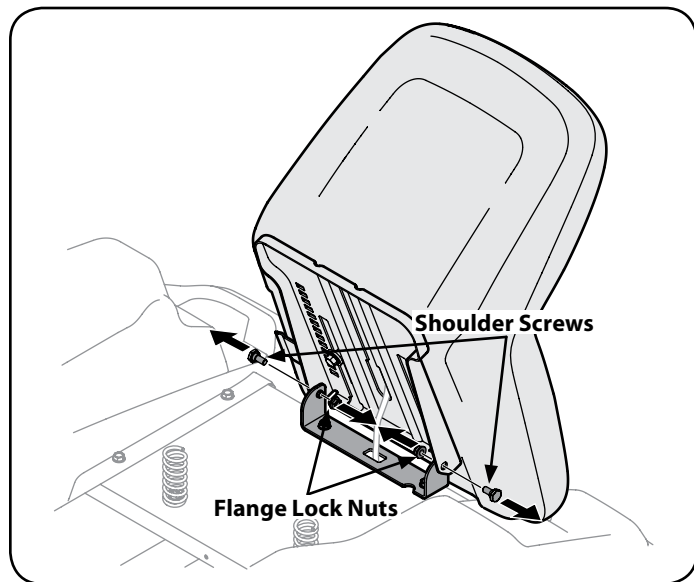

Figure 5
- Rotate the seat into position and secure the seat into place with the previously removed shoulder screws and flange lock nuts. Be careful not to crimp or damage the wire harness while installing the seat. See Figure 5.